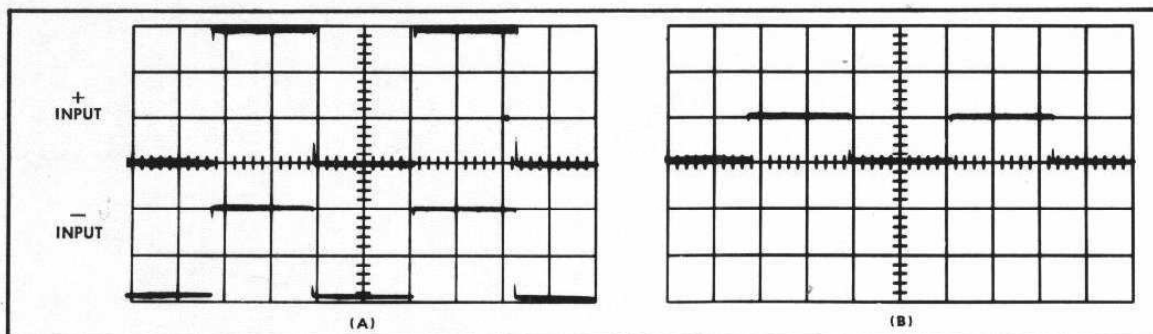

Fig. 2-1. (A) Upper signal applied to + Input and lower signal applied to - Input. (B) The resultant output signal.
2. If the two signals are in phase but of different amplitude, the output will equal the amplitude difference. See Fig. 2-1.